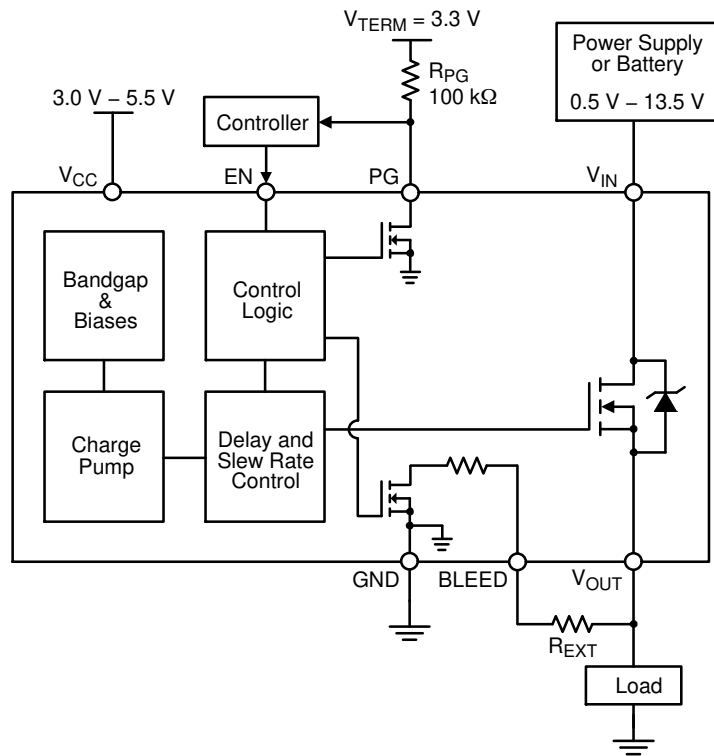
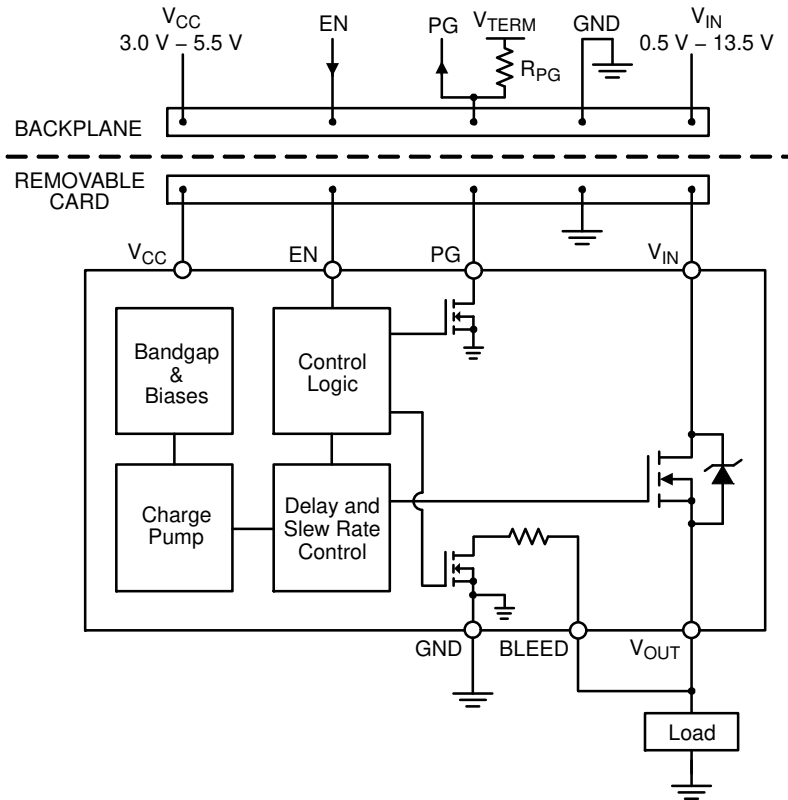

Figure 28. NCP45524 Typical Application Diagram – Load Switch
Figure 29. NCP45524 Typical Application Diagram – Hot Swap
Is it required that the BLEED pin be connected to V_{OUT} either directly (as shown in Figures 29 and 32) or through an external resistor, R_{EXT} (as shown in Figures 28 and 31). R_{EXT} should not exceed 100 M Ω and can be used to increase the total bleed resistance and decrease the load bleed rate.
The NCP45524 devices have a power good output (PG) that can be used to indicate when the gate of the MOSFET is fully charged. The PG pin is an active-high, open-drain output that requires an external pull up resistor, R_{PG} , greater than or equal to 1 k Ω to an external voltage source, V_{TERM} , that is compatible with input levels of all devices connected to this pin (as shown in Figures 28 and 29).